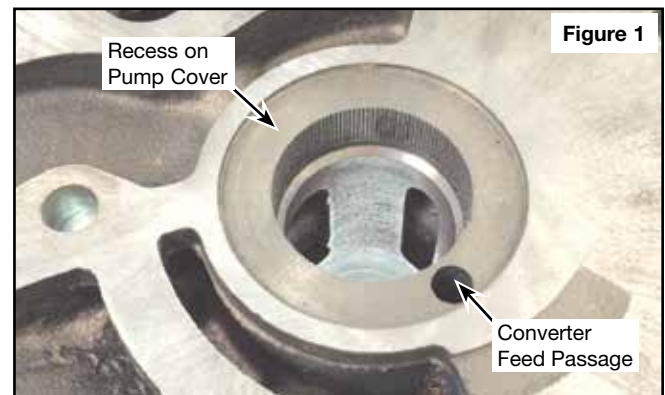

Figure 1
- With original stator tube removed, drill converter feed passage to .156" (5/32") (Figure 1). If already larger, that is alright.
- Press stator tube into pump cover so that front end of serrations are just flush with recess on pump cover (Figure 1).